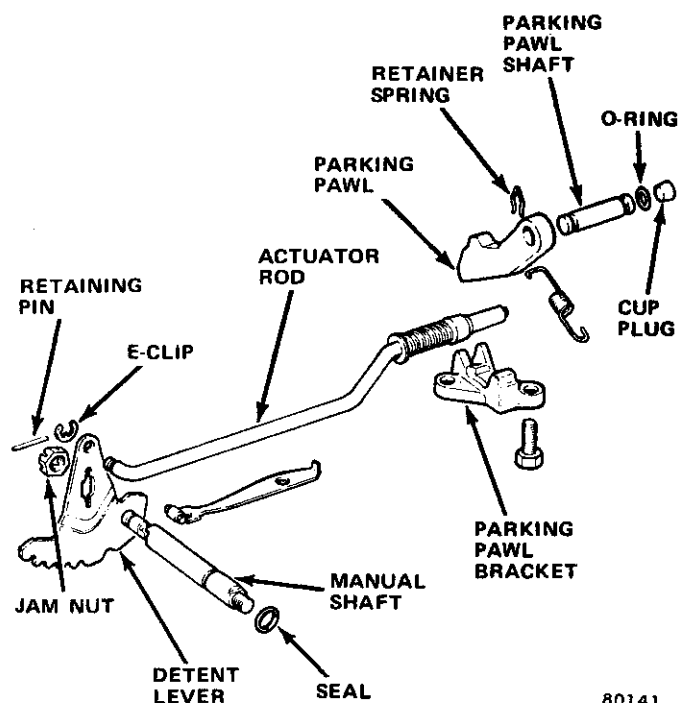

Fig. 2C-10 Parking Linkage
- (1) Raise vehicle.
- (2) Disconnect manual linkage and remove manual lever from manual shaft.
- (3) Remove oil pan and oil filter. Discard pan gasket.
- (4) Unthread jamnut retaining detent lever on manual shaft (fig. 2C-10).